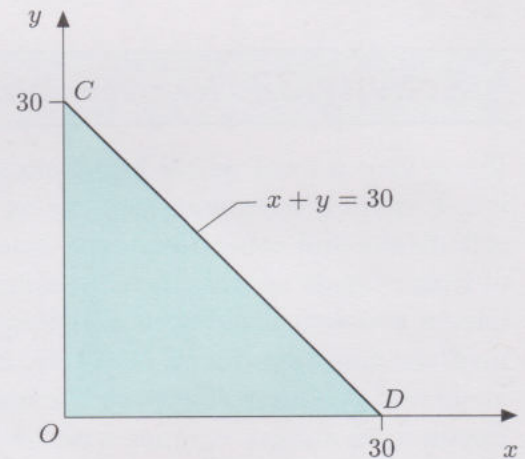
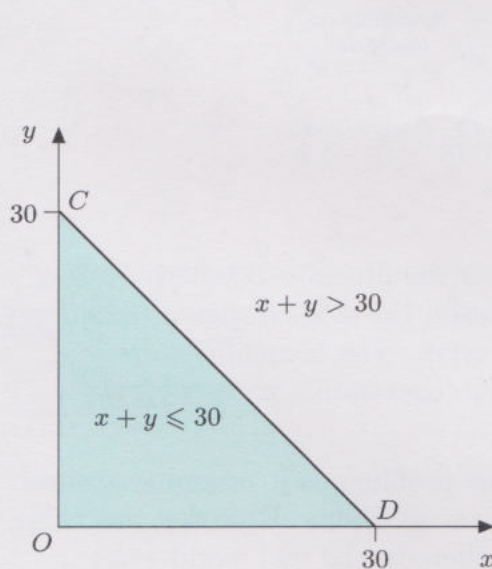
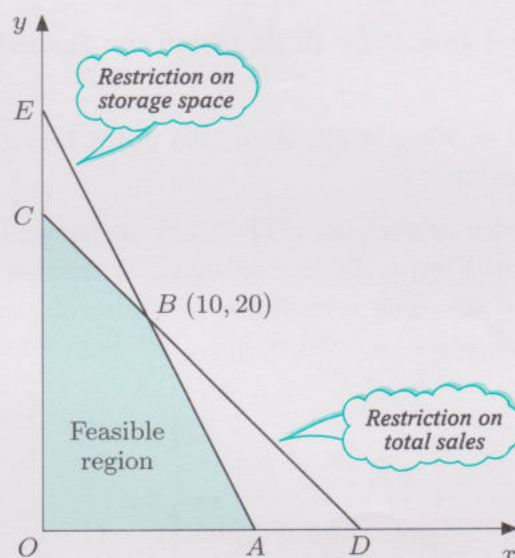

Figure 32
Figure 33
Figure 35
- ◁ **Do the maths** ▷ Now think about the graphical interpretation of inequality (25). When the 'equals part' holds then you have the straight line $x + y = 30$, shown as CD in Figure 32.
► Plot these points and other ones you thought of on Figure 32.
Points on opposite sides of the line CD satisfy opposite inequalities. The shaded region OCD in Figure 32, including its boundary lines, represents the inequality $x + y \leq 30$. The remainder of the upper right quadrant represents the inequality $x + y > 30$. Figure 33 illustrates this.
- ◁ **Create model** ▷ Now put together the two shaded regions in Figures 32 and 34, as in Figure 35. The shaded area that they have *in common* is the region $OABC$, which represents the area where x and y satisfy both inequalities: both the restriction on total sales $x + y \leq 30$ and the restriction on storage space $x + \frac{1}{2}y \leq 20$.
which is the equation of another straight line, shown in Figure 35.